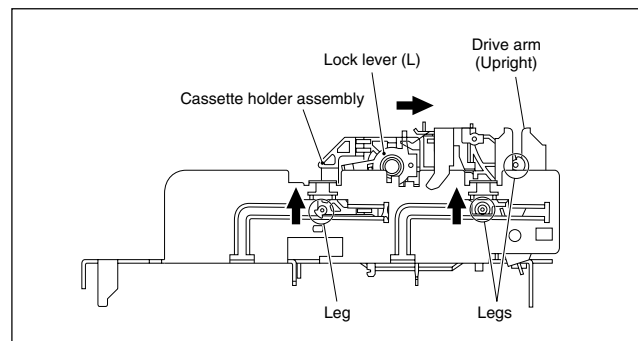

Fig. 2-2-3c
(4) While swinging the lock levers (R) and (L) of the cassette holder assembly toward the front, slide the cassette holder assembly until its legs come to where the guide rail and the roller cam assembly have been removed (so that the drive arm is upright). (See Fig.2-2-3c.)